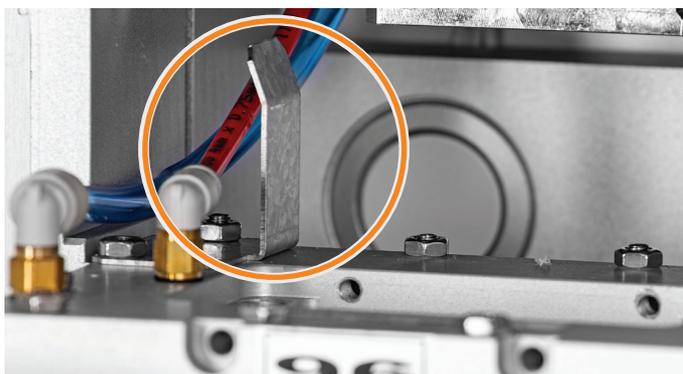

Figure 7. Ensure that the gas tubes are on the left side of the highlighted bracket.
27. Reconnect the gas tubes to the pressure head. Ensure that they are properly fastened by pulling on them and that they are on the left side of the bracket as shown in Figure 7.